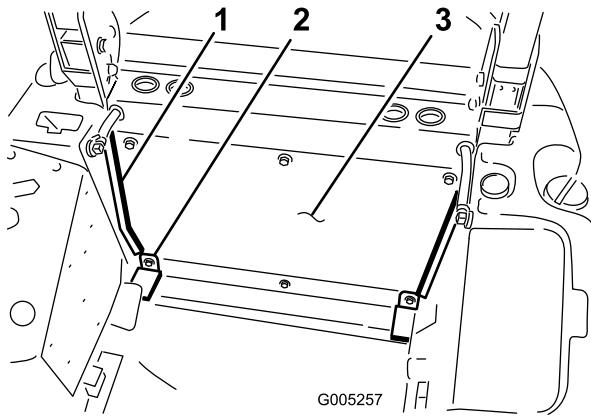

Figure 60
1. Rear panel 2. Screws (3)
2. Align the corner mat mounting holes with the bottom holes in the rear panel and the lower frame cross member holes (Figure 60). Secure the corner mats to the rear panel and cross member with 2 rear panel mounting screws previously removed. Use the remaining screw to secure the bottom middle of the rear panel to the cross member.
4. Remove the backing and affix the self-adhesive seals to each edge of the rear panel (Figure 60). Make sure each seal butts up against the fuel tank side panels.